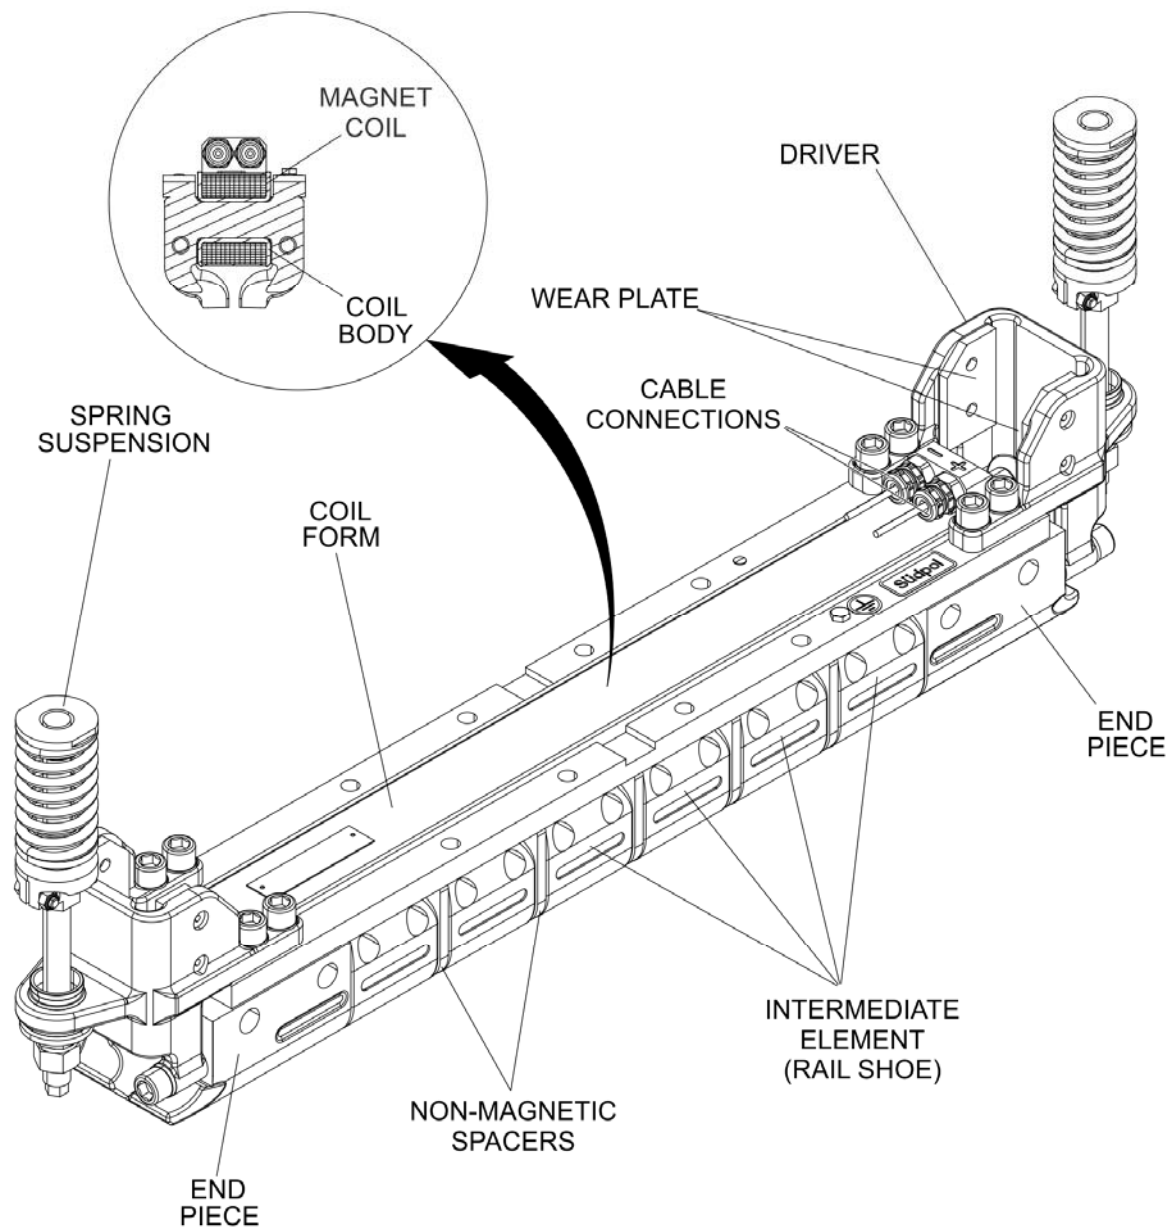

Figure 2-1: Track Brake Components
The articulated track brake magnet components include end pieces, intermediate elements (rail shoes), and coil form, see Figure 2-1.
3. Inspect track brake drivers, see Figure 2-1 and driver wear plates for wear and damage. If worn or damaged replace drivers and wear plates per Section 1000, Track Brakes of the Heavy Repair Maintenance Manual.